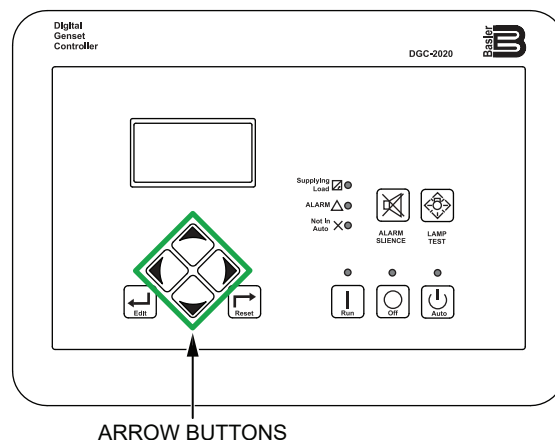

Figure 79. Digital Controller (Arrow Buttons)
2. Use the **Arrow buttons** (Figure 79) to navigate to the **Escape Mode Request** menu: (Settings->Communication->Canbus Setup->ECU Setup->Isuzu ECU Setup->Escape Mode).
2. Use the Arrow buttons (Figure 79) to navigate to the **Alarms Status** menu (Metering->Alarm-Status). This will allow the operator to perform the following fault diagnostics: